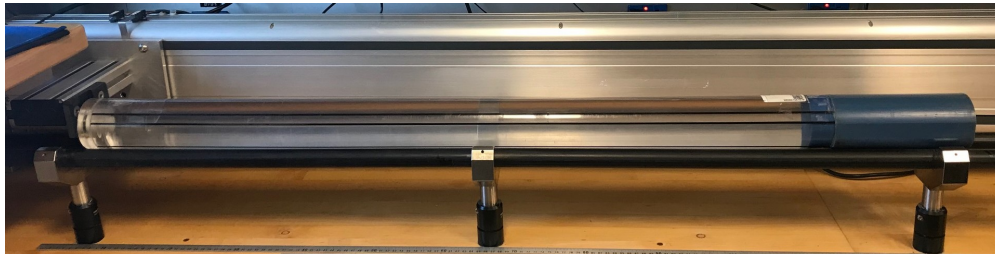

Figure 7. WRMSL and STMSL Pusher End Sequence.
8. After the last section is measured, place the 'Pusher End Sequence' (water core standard) on the track (Figure 7).